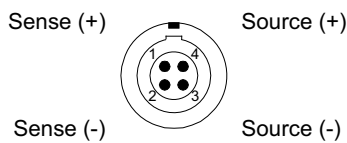

Fig. 135 – Pro II-RTD-8 Rev. E: Pin assignment Lemo connector
- **Pro II-RTD-8-L Rev. E:** Module inputs on Lemo connectors. Pin assignment see fig. 135.